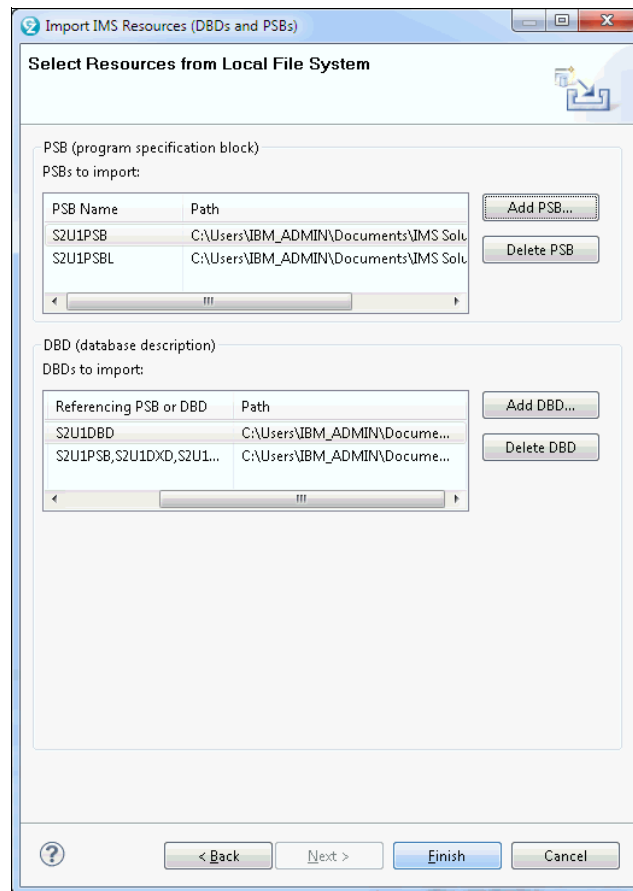

Figure 8-27 Lists of the DBD and PSB resources to be imported
9. You are now ready to import these DBDs and PSBs into your project. Click **Finish**, as shown in Figure 8-27.